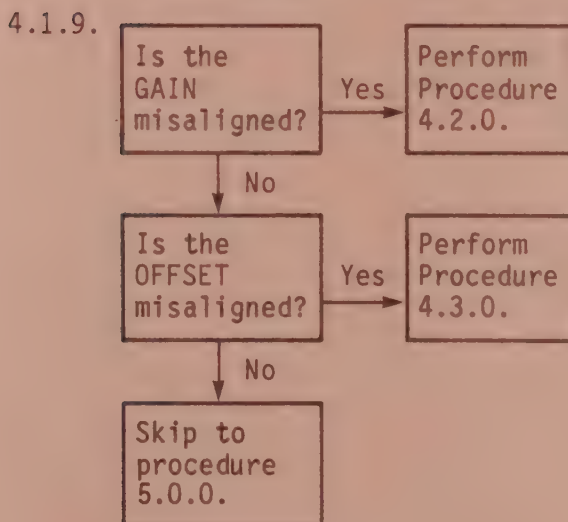
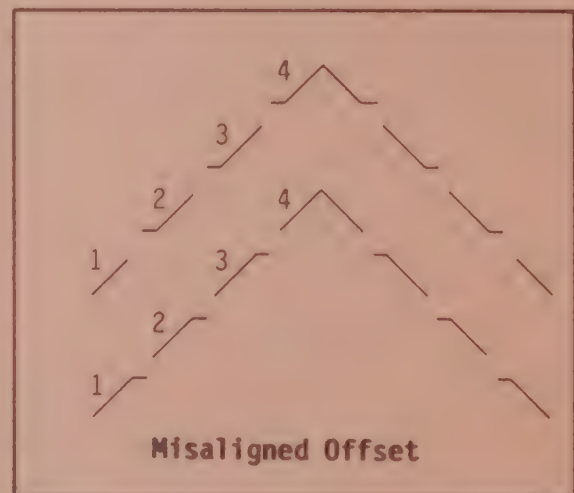

Figure 4-1
Figure 4-2
- 4.1.8. Slowly adjust the DC Level control fully clockwise while observing for Gain (Figure 4-1) or Offset (Figure 4-2) separations